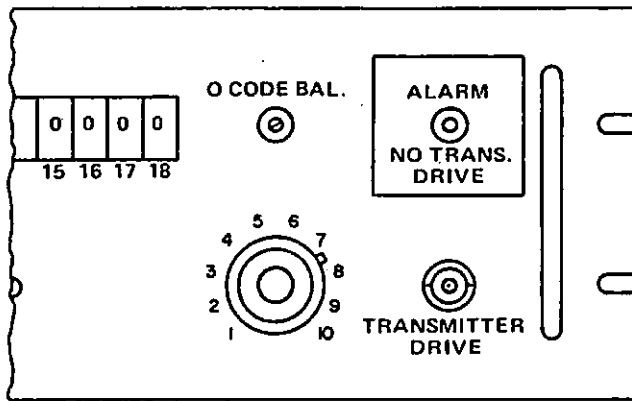

Figure 5
9. Follow instructions enclosed with the dial for proper installation. (See Figure 5).